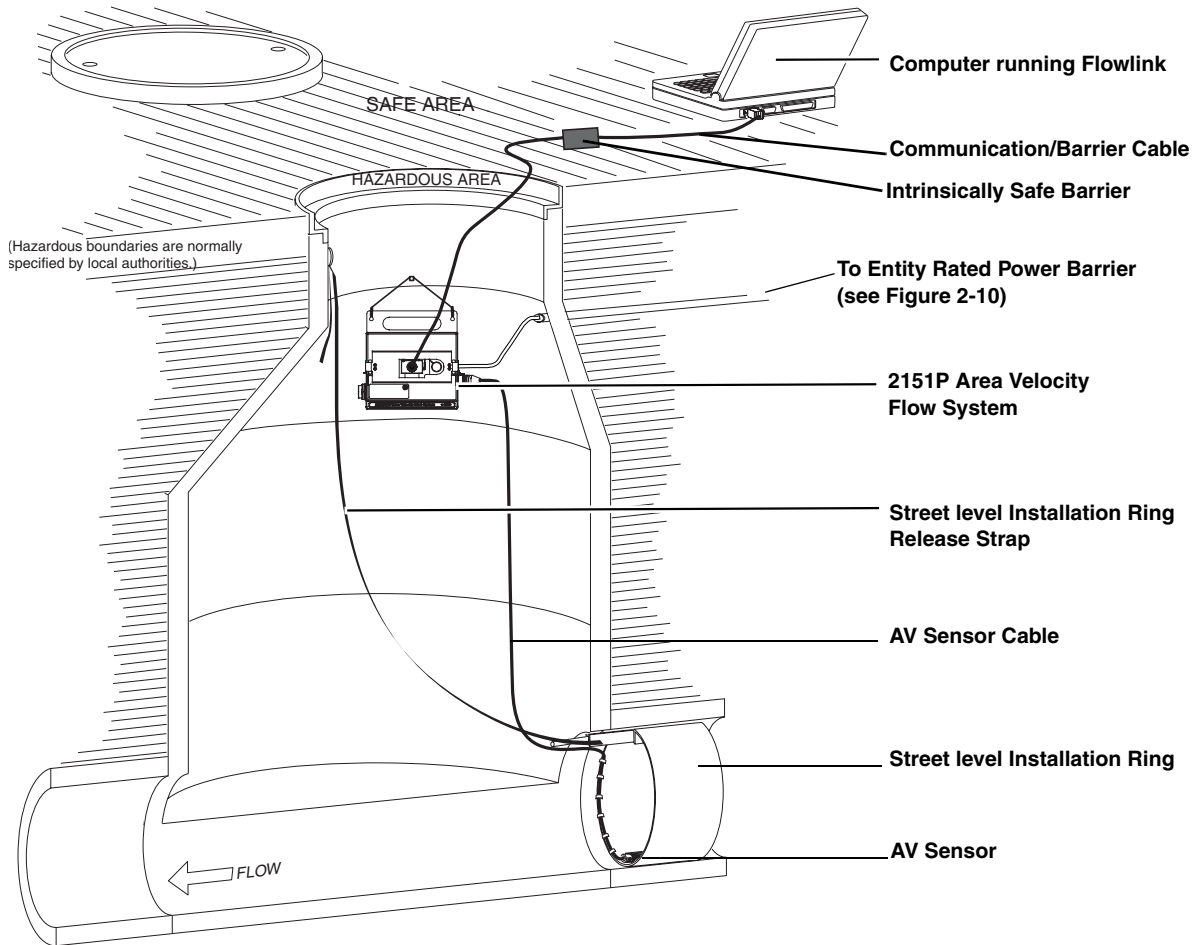
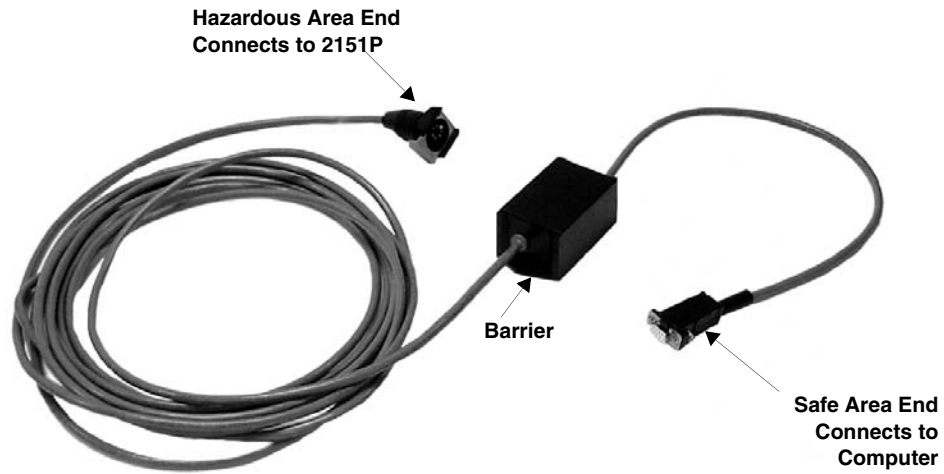
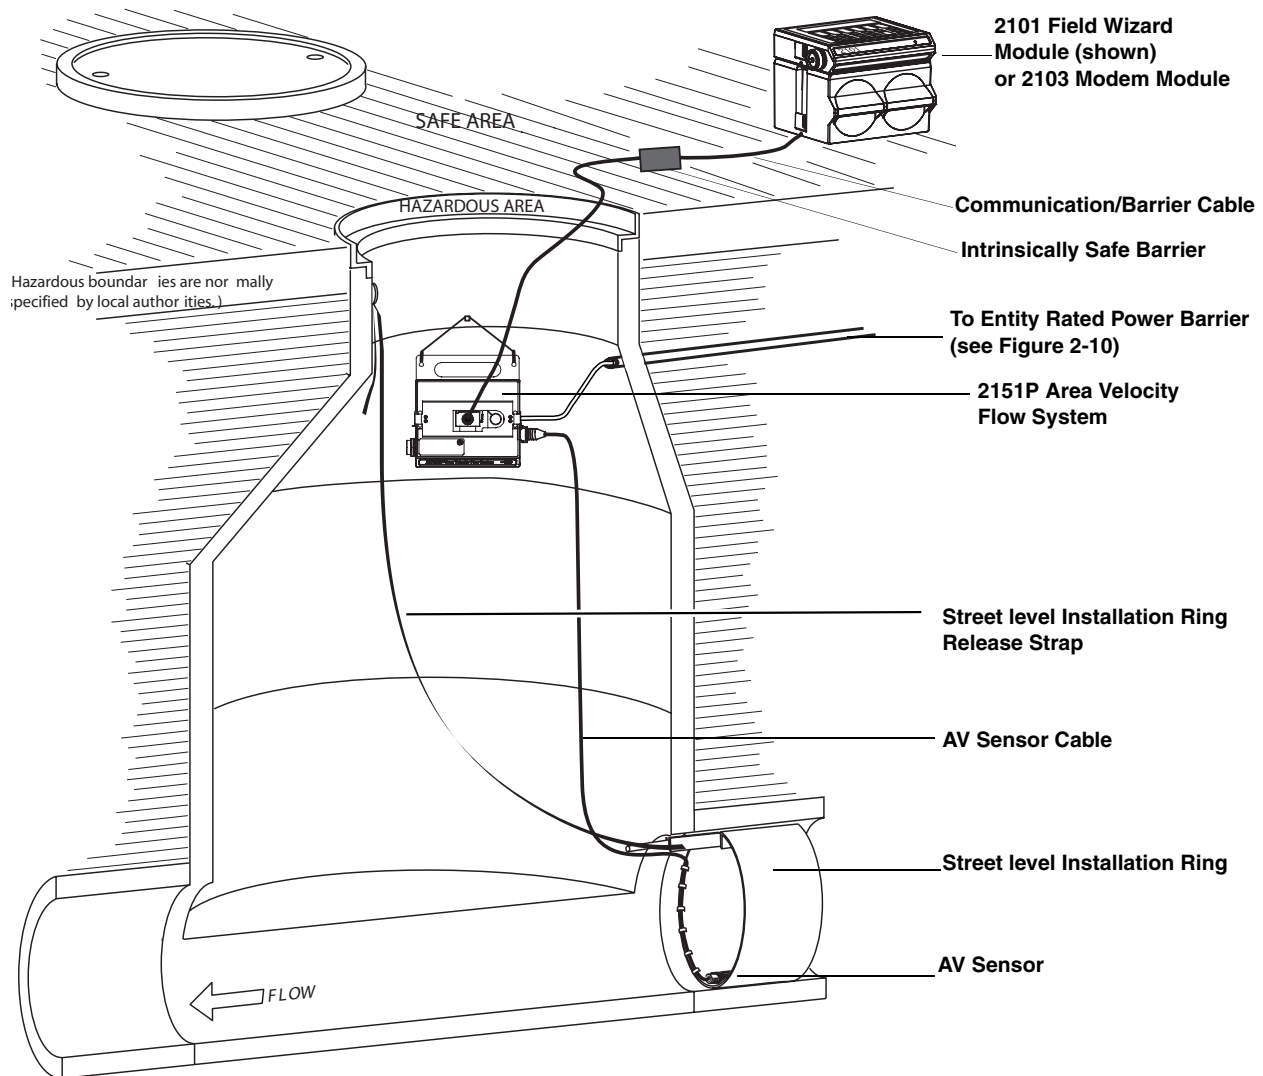
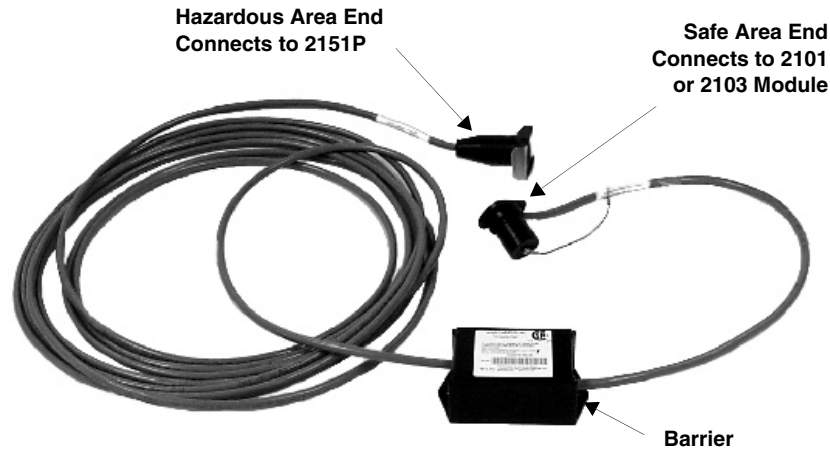

Figure 2-8 Typical Round-pipe Installation
Figure 2-9 Intrinsically Safe Communication/Barrier Cable For Connection to a Computer
Figure 2-11 Typical Round-pipe Installation
Figure 2-12 Intrinsic Safe Communication / Barrier Cable For Connection to a 2101 or 2103 Module
The 2151P has a communication connector on the top (see Figure 1-2). This provides one way that the 2151P can be connected to a laptop computer (see Figure 2-8) or an Isco 2101 Field Wizard or 2103 Modem (Figure 2-11) running Isco's Flowlink software.
4. Route the communication cable as shown in Figure 2-8, so that the communication barrier is in a safe area.
Figure 2-8 shows how the 2151P would be directly connected to a laptop computer.
When connecting the 2151P directly to a laptop computer, as shown in Figure 2-8, you must use a special communication cable (P/N 60-2004-153) that includes a communication barrier (Figure 2-9).
Figure 2-11 shows how the 2151P would be connected directly to a 2101 Field Wizard or 2103 Modem module.
When connecting to a 2101 or 2103, as shown in Figure 2-11, you must use a special communication cable (P/N 60-2004-201) that includes a communication barrier (Figure 2-12).